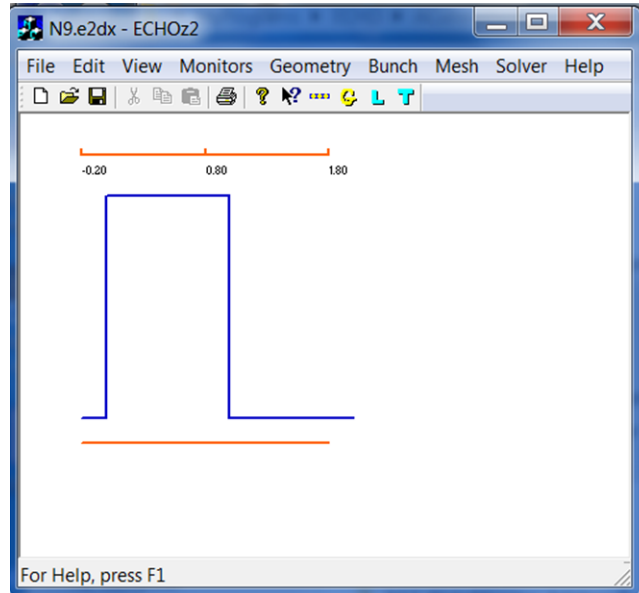

Figure 3.5: Pillbox cavity geometry.
- Go to menu "File/Open" and navigate to directory **Examples/ N9_ResistivePillbox/ ECHOz2**. Open the input file **N9.e2dx**. You should see the geometry shown in Fig. 3.5.